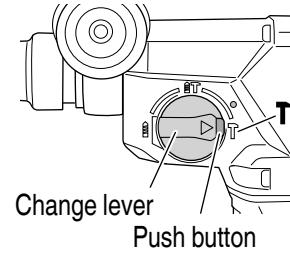

Fig. 26
This rotary hammer can be set to hammering only mode by pressing the push button and turning the change lever to the **T** mark (Fig. 26).
- (3) Turn the change lever to **T** mark (Fig. 26).